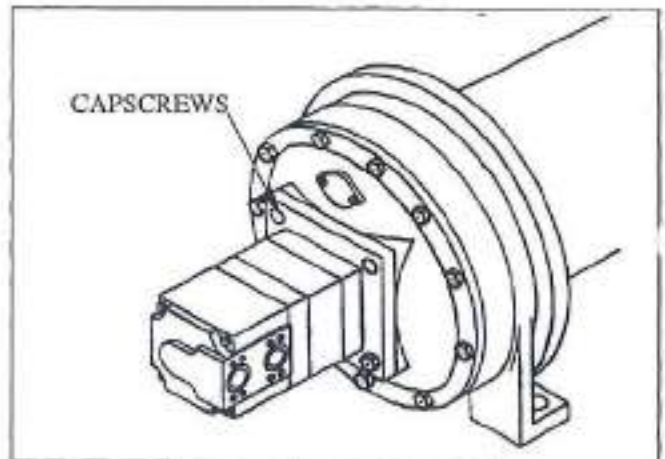
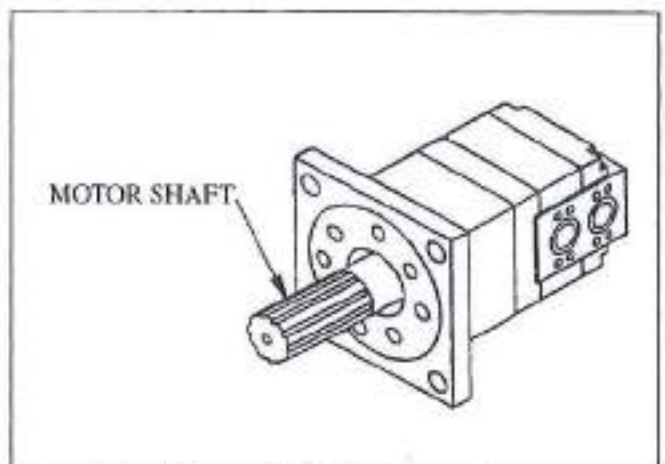

Figure 2
Figure 3
- (3) With a rubber mallet, tap the motor to break the seal and work the motor out of the pilot in the winch end cover. See figure 2. Save the motor shim for use in reassembly. See Figure 3.